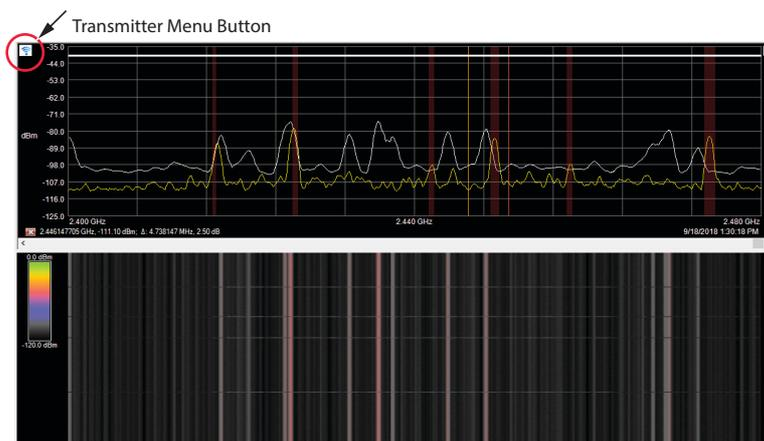

Figure 5-29. Transmitter Menu Button
Known transmitter details can be identified by selecting the signal spectrum on the Spectrum Analyzer Screen. From the Trace Monitor screen, click the **“Transmitter Menu”** to display the Known Transmitter menu. Refer to Figure 5-29 on page 5-30 to locate the Transmitter Menu button.
2. Click the Transmitter Menu Button from the Spectrum Analyzer display. See Figure 5-29.